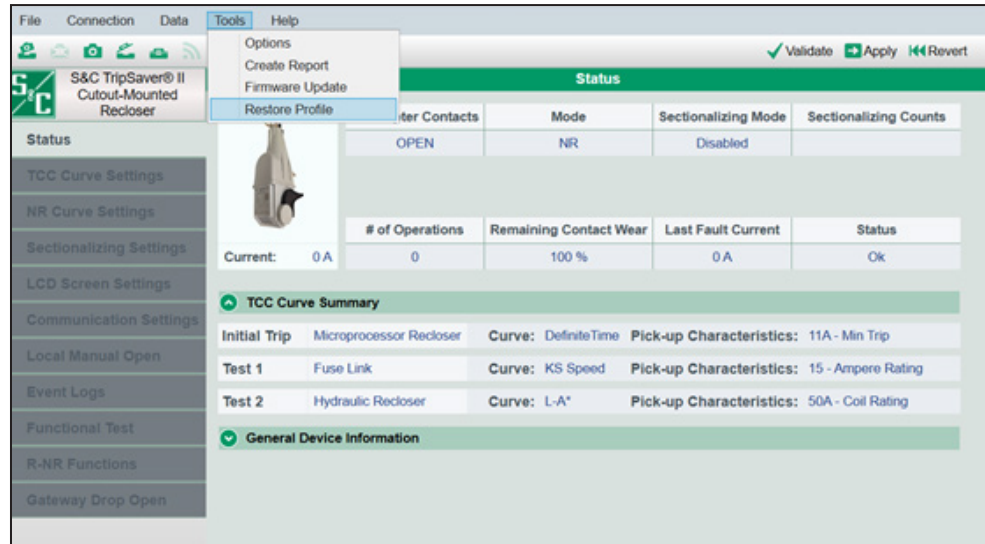

Figure 164. The Restore Profile menu item in the Tools menu.
STEP 1. From the **Tools** menu, select the **Restore Profile** menu item. See Figure 164.